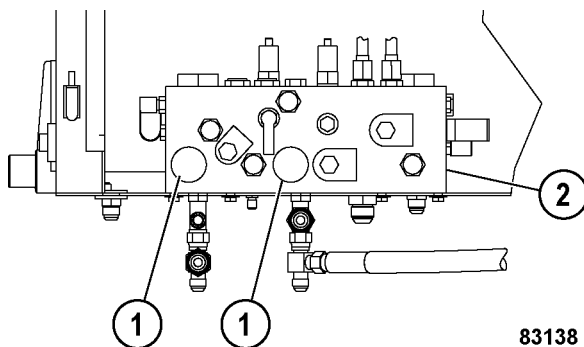

FIGURE 50-31. BRAKE MANIFOLD
2. Open bleed down valves (1, Figure 50-31) on brake manifold (2) to depressurize the brake accumulators.